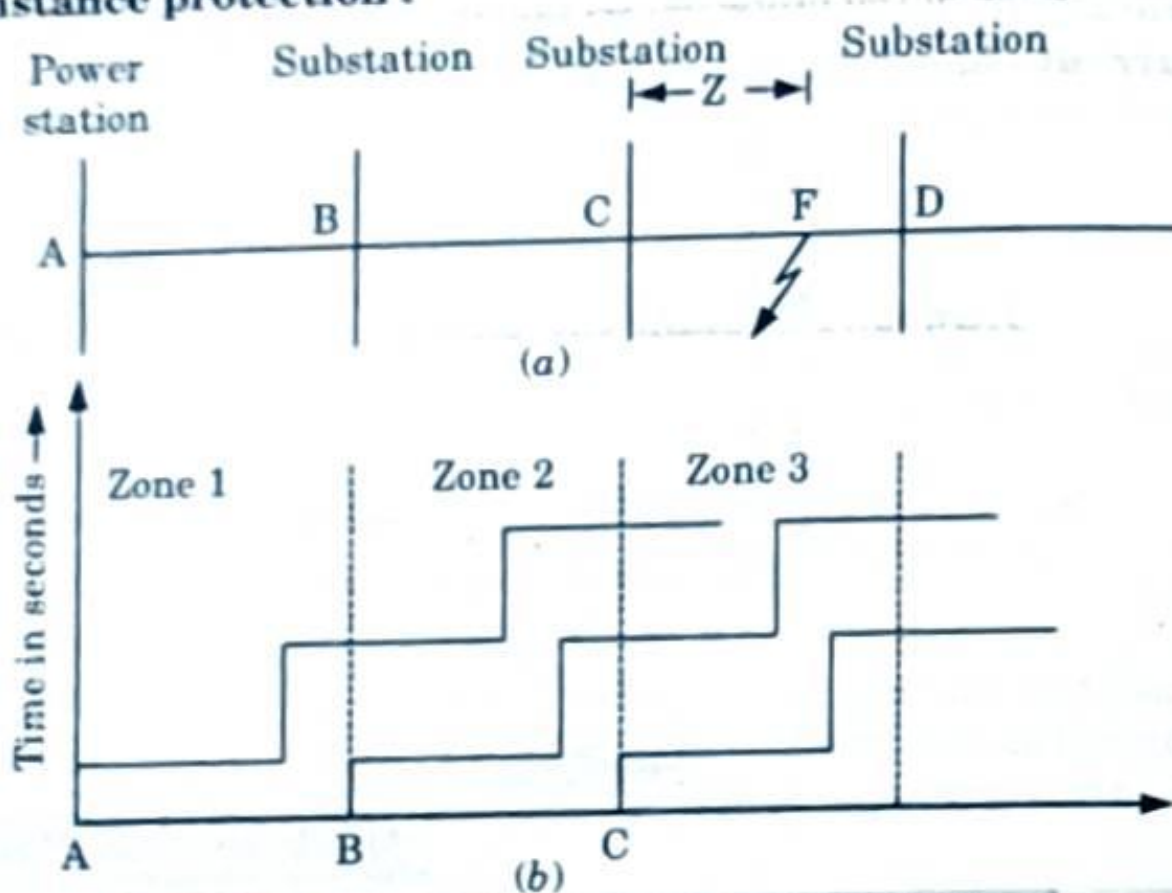

Fig. 3.17.1. Distance or impedance protection.
- Fig. 3.17.1 shows the simplest system consisting of feeders in series such that the power can flow only from left to right. The relay at A, B, C and D are set to operate with impedances less than Z_A , Z_B , Z_C and Z_D respectively.
- A system with instantaneous impedance relays, set to act on impedances less than or equal to the impedance of a section, as shown in Fig. 3.17.1(a), would be difficult to adjust; a fault near the junction of two sections is likely to cause the operation of two relays.